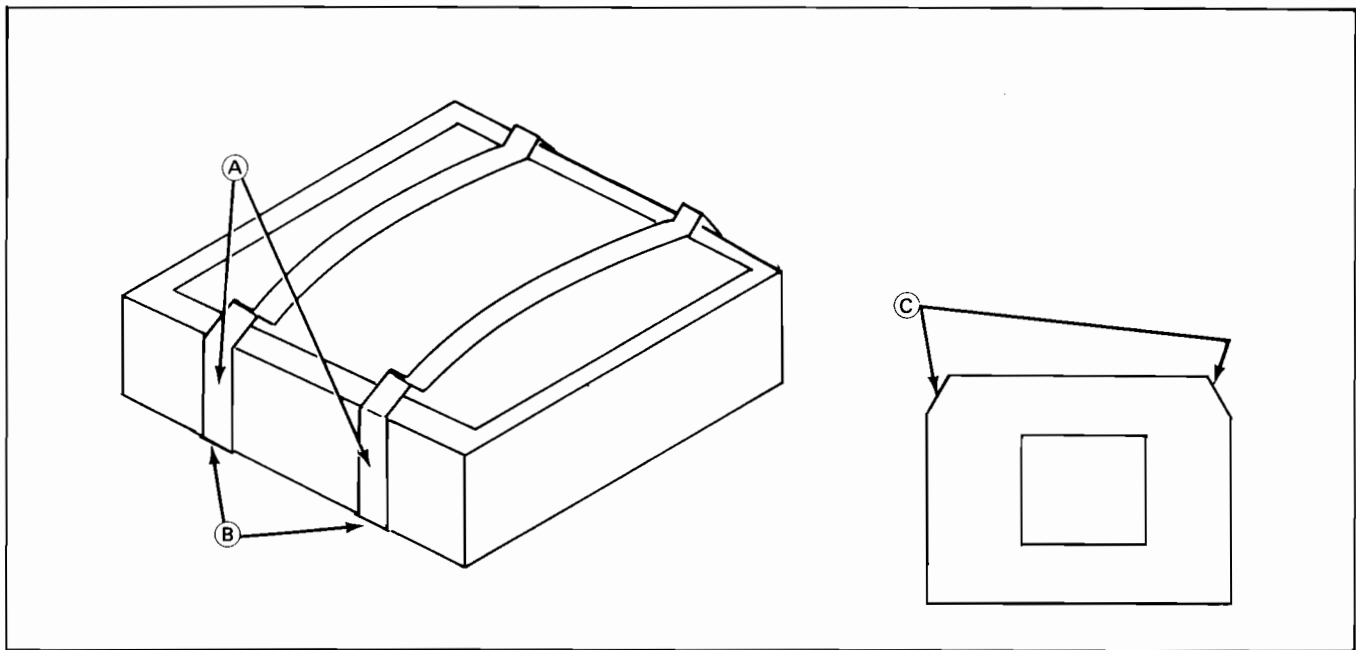

Figure 5-1. IOP Chip Socket With Retaining Clips
2. While pressing down on one of the retaining clips with a thumb, insert the flat blade of a screwdriver or similar instrument between the retaining clip and the side of the socket (B).
3. Twist the bottom portion of the blade away from the socket to free the retaining clip (A) from the bottom edge of the socket (refer to Figure 5-1).
4. When the retaining clip (A) is free, lift it up and over the chip.